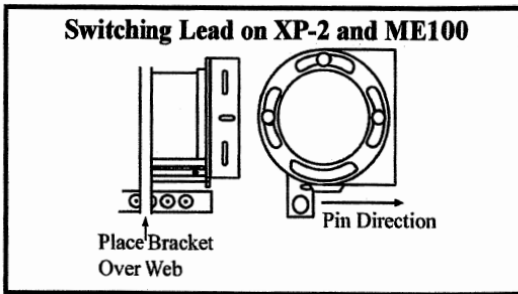

Figure 6
4. Make sure emitter pins are pointing at the air stream slot. (see Figure 6)
4. Make sure emitter pins are pointing at air stream slot (see Figure 6).